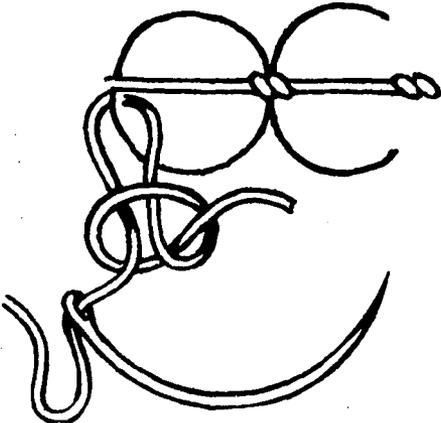

Fig. 23. Fasten rows of pocketed springs together, tying them on seam side of pockets first.
**Tie Pocket Rows Together.** Use your curved needle and mattress twine to fasten rows of encased springs together. Measure twine so it is 1½ times the length of each row. Start with a row of springs seam side up. Insert needle through cloth under top coil of first spring and tie a slip knot there (figure 23).